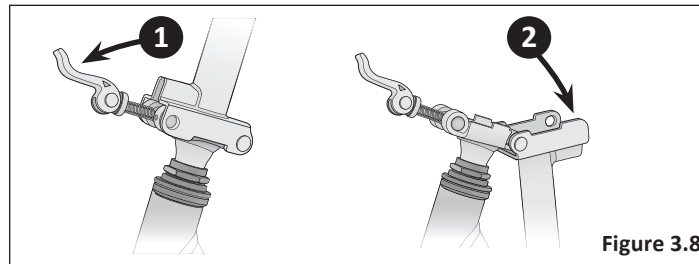

Figure 3.8
- 1 Start by opening the handlebar post quick-release lever and moving it down out of the slot on the base of the handlebar post. **Note:** The quick-release lever must be moved completely down to retract the locking pin, slide sideways and release the handlebar post. **Figure 3.8**